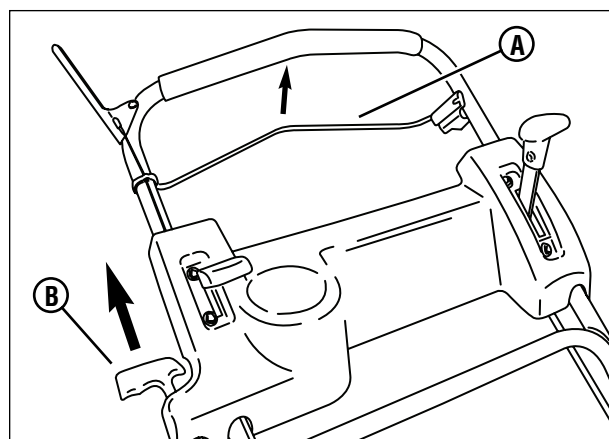

Figure 4: Starting the mower
3. Pull the blade control (**A, Figure 4**) against the handle.
2. Pull the blade control (**A**, **Figure 4**) against the handle.